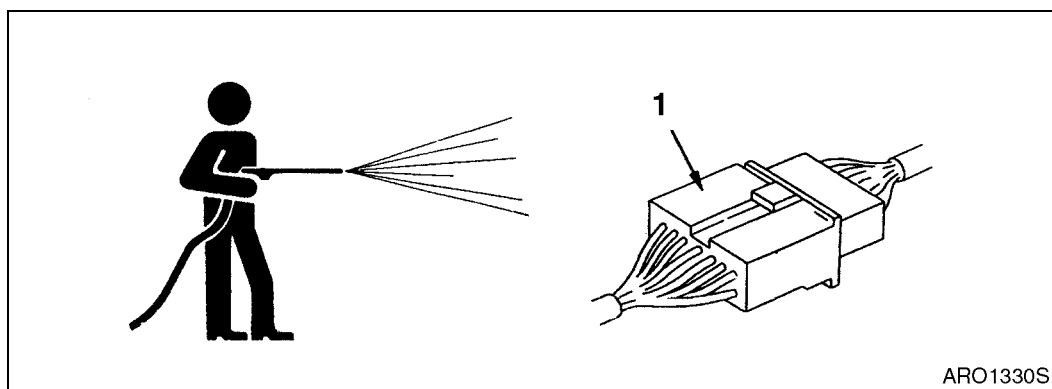

Figure 27
- Do not spray water directly on electrical components (sensors, connector) (1, Figure 27). If water gets into the electrical system, there is danger that it will cause defective operation and malfunction.